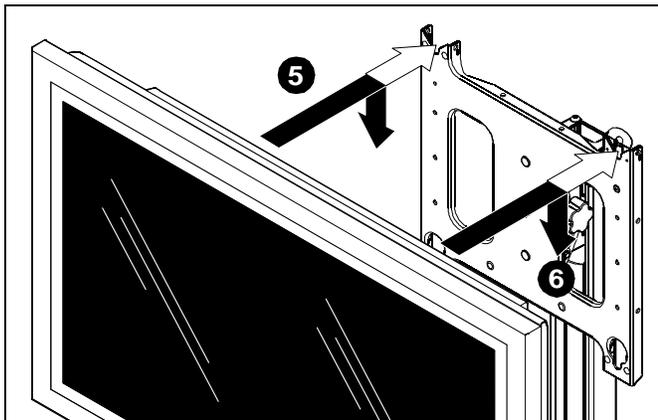
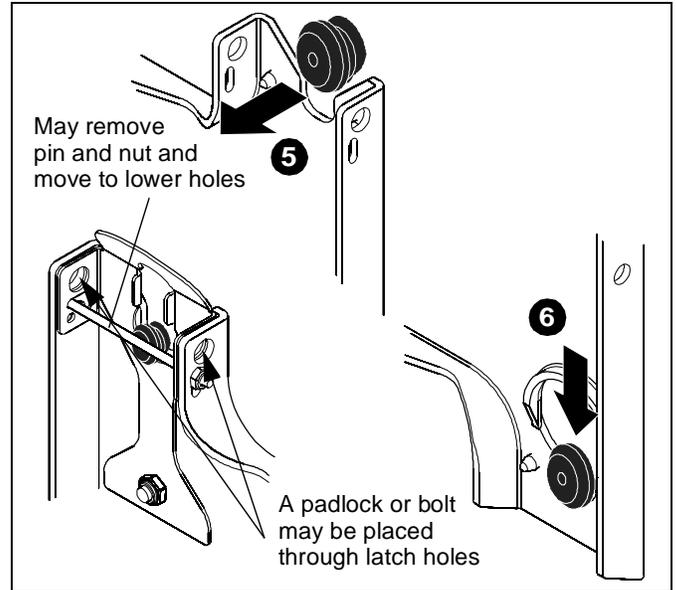

Figure 9
Figure 10
5. While supporting both sides of display, align four mounting buttons on display or interface bracket with four mounting holes in head assembly. (See Figure 9) and (See Figure 10)
6. Lower display into place listening for audible "click" to ensure recessed area of mounting buttons are properly seated in lower area of mounting holes. (See Figure 9) and (See Figure 10)
NOTE: Holes are provided in the faceplate for use with a padlock or similar locking device, if desired. In addition, the pin and nut may be removed from the upper holes and moved to the lower holes for use as a more permanent locking device. (See Figure 10)